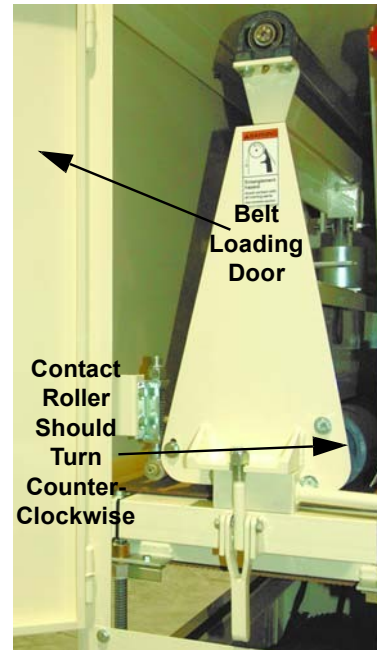

Figure 31: Contact Roller Should Turn Counter-Clockwise
1. Three-phase machines: Double-check the contact roller rotation and/or sand paper. Confirm that your sand paper is turning counter clockwise. See Fig. 31.